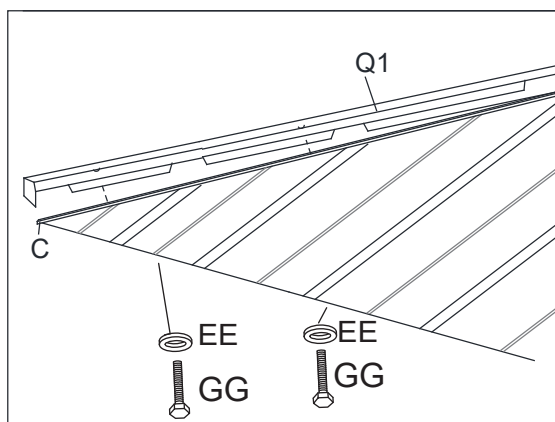

Figure 15-1
15.1: Attach the Main Roof Corner Trim (Q1) to the Main Roof Corner Support (H) using Bolt (GG) and washer (EE). Repeat for all corners. Tighten All Bolts. See Figure 15-1 and Figure 15-3.